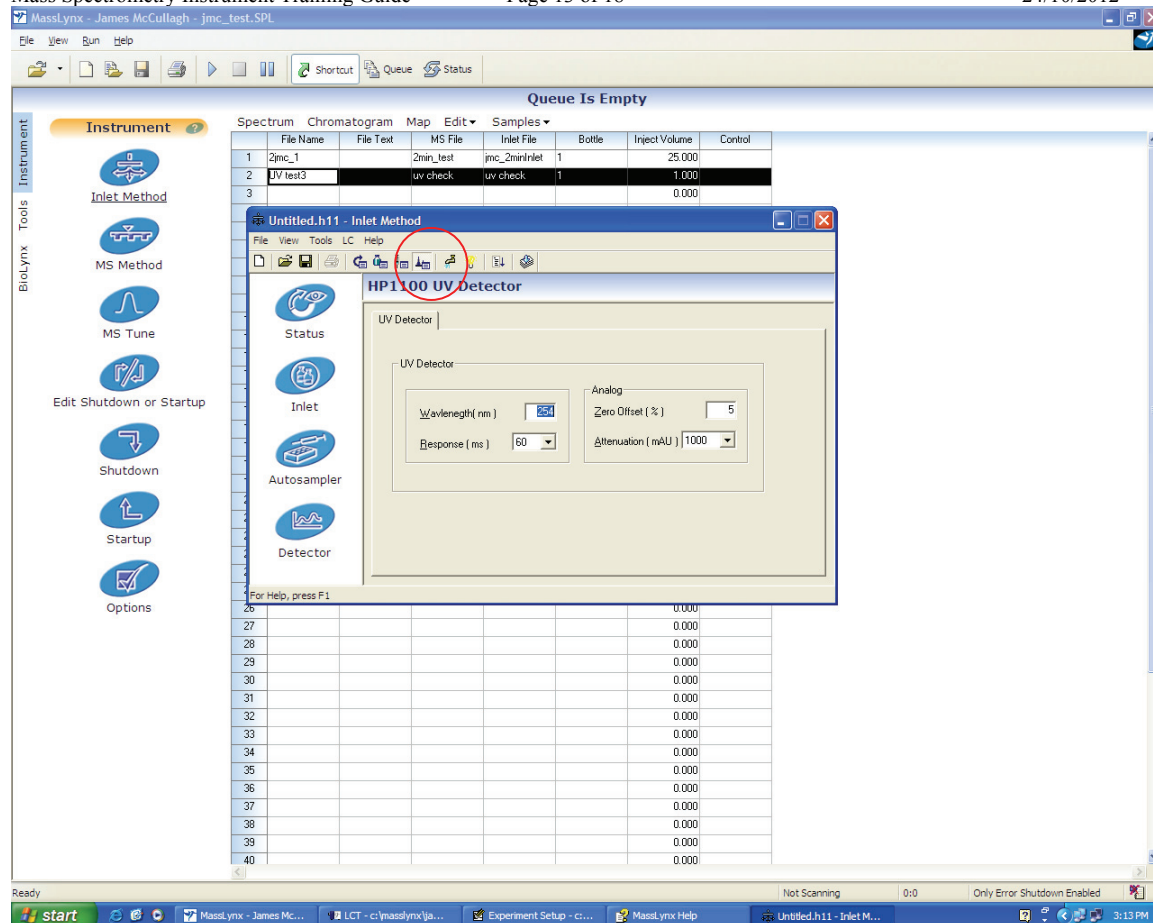

Figure 15: Editing UV detector parameters
- 2.8 Spectrum: Go to Tools/Make Calibration/choose the NaF positive ion mode reference file and then manually match peaks (Figure 15).
4.2 Select the 'edit detector parameters' tab, see Figure 15.